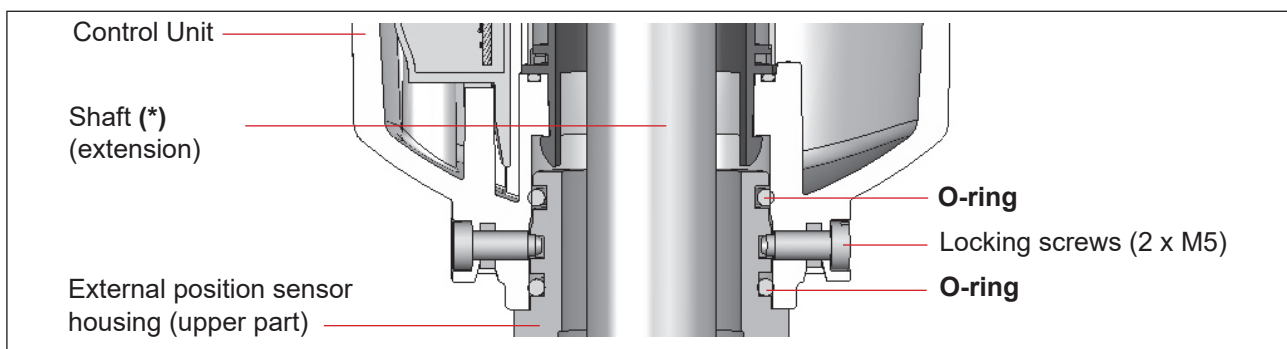

Fig. 11: Detail of the connection of 8681 Control Unit - D4 and the external position sensor housing
- Loosen the locking screws (shoulder screws M5 – see “Fig. 11”) slightly until the underside of the screw head is flush with the auxiliary surface of the housing.